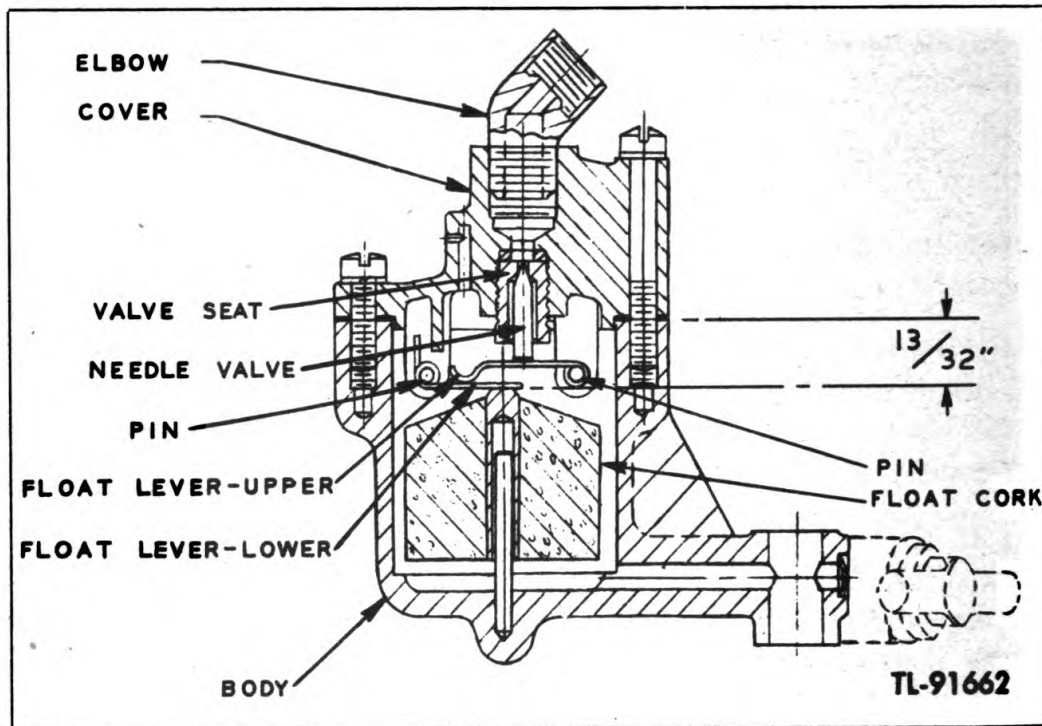
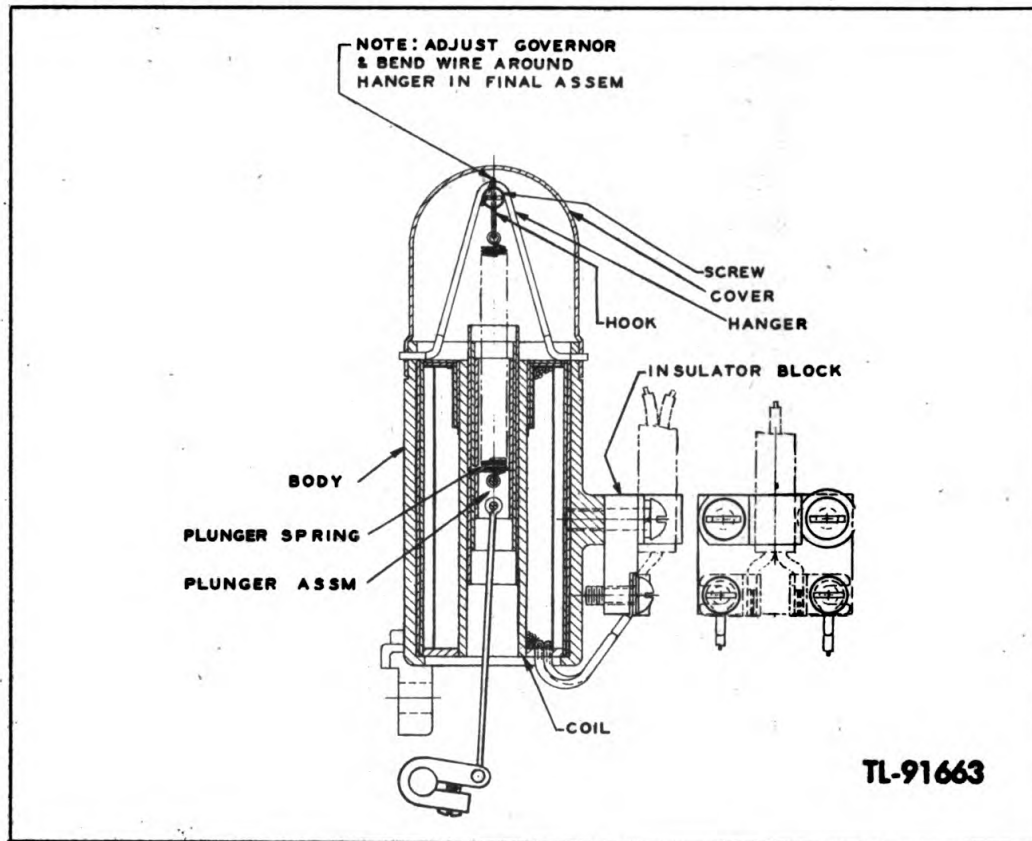

Figure 14. Carburetor float assembly
Figure 15. *Electric governor assembly*
(5) If the engine floods easily when starting and is not over-choked, or if it is not possible to adjust the carburetor for satisfactory engine performance, the difficulty may be caused by a faulty float needle valve, needle valve seat, or float cork. If any of these mentioned parts are not functioning properly, the level of the fuel in the float bowl will be too high, permitting the fuel to flow into the air bleed chamber. Figure 14 shows the position of parts constituting the float assembly. To determine if the needle valve and seat are seating properly and the float levers are not bent too high or too low, the distance from the lower lever to the face of the float bowl where the gasket is located should measure  $13/32$  inch, as shown in figure 14.
(6) If a new float is installed, make certain it moves up and down freely on the float bowl pin.
(7) The needle valve seat is replaceable by unscrewing it from the float bowl cover.
**k. Electric governor.** (1) No adjustments should be necessary to the governor (fig. 15) unless the plunger return spring is replaced, as it is correctly set for the requirements of the unit at the factory.